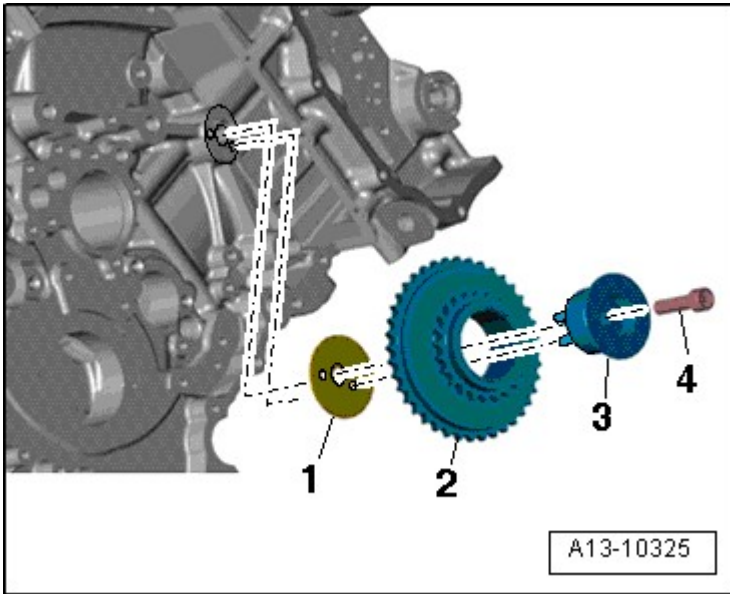

Fig. 19: Locating Camshaft Timing Chain Drive Sprocket Mounting Pins
- Installed position, refer to **Fig. 19**